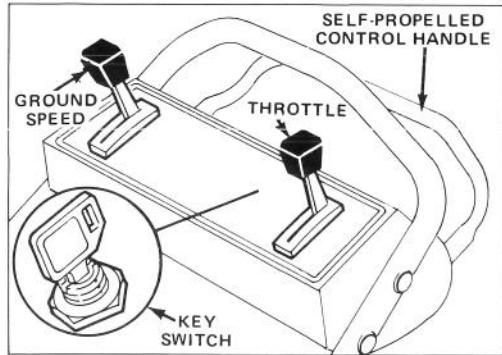

Figure 10
1. **CONTROLS** — Key switch (Key Start Models) throttle, ground speed control and self-propelled control bar are on upper handle (Fig. 10). Fingertip starter is on top of engine.
2. Push high tension wire onto spark plug and on self-propelled models move ground speed control to "N" (Fig. 10).
4. KEY-LECTRIC STARTING — Move throttle (Fig. 10) to CHOKE. Turn Key (Fig. 10) to START and release when engine begins running. Regulate throttle as desired.